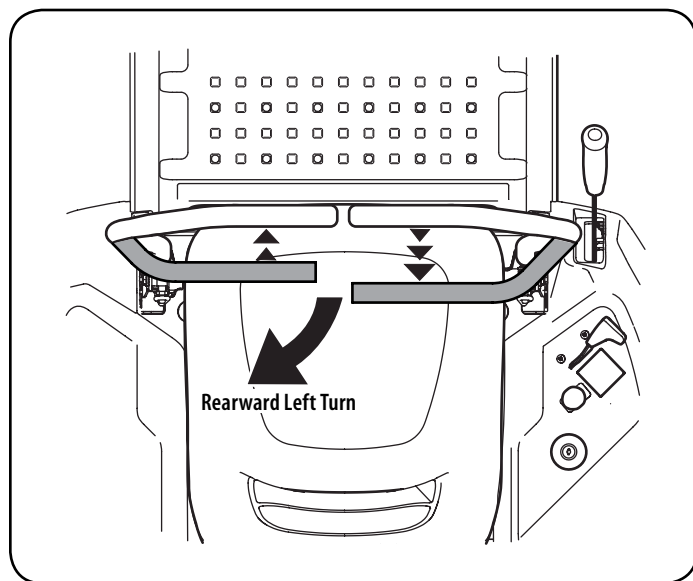

Figure 14
2. To turn to the left while traveling in reverse, move the left drive control lever forward of the right lever. See "Figure 14".